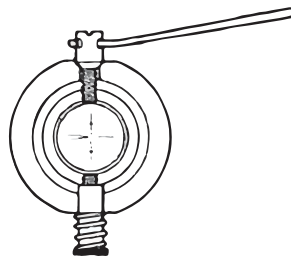

Figure 11
Take off the eyepiece cover (12). Turn the adjusting screw with the pin (Fig. 11) until the values b_2' and b_2 are the same. Put on the eyepiece cover again.